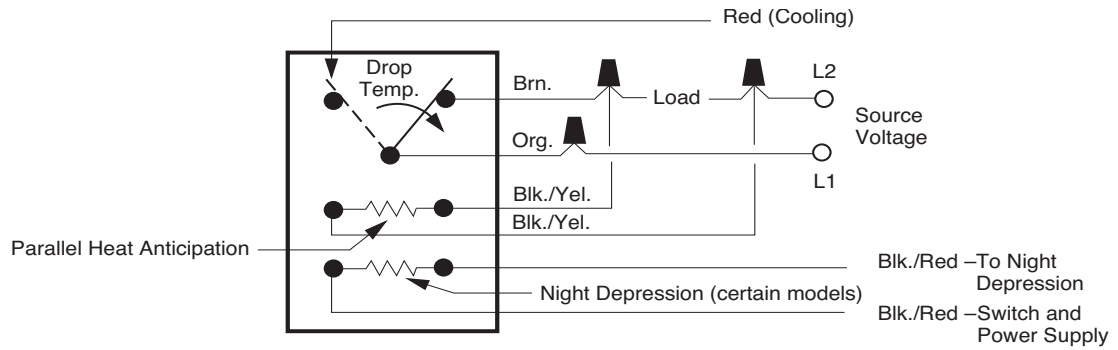
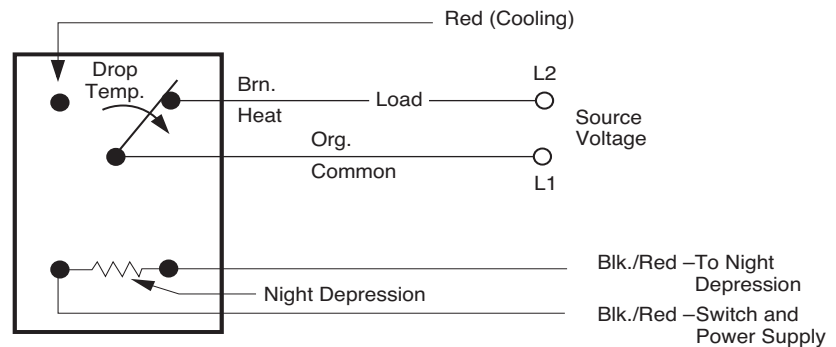

Figure-2 Typical of Parallel Heat Anticipation with or without Night Depression.
Figure-4 Typical Night Depression.
2. Make electrical connection to thermostat (see Figure-2 through Figure-4).